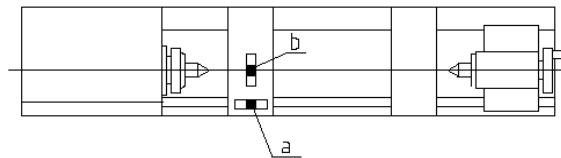

Figure 6-3
1. Use a machinist's precision level on the bed ways both front to back and side to side, as shown in Figure 6-3. Take the reading in one direction every ten inches. Make sure the ways are clean and free of any debris before placing a level upon them.
Deviation over bed length (see Figure 6-3):